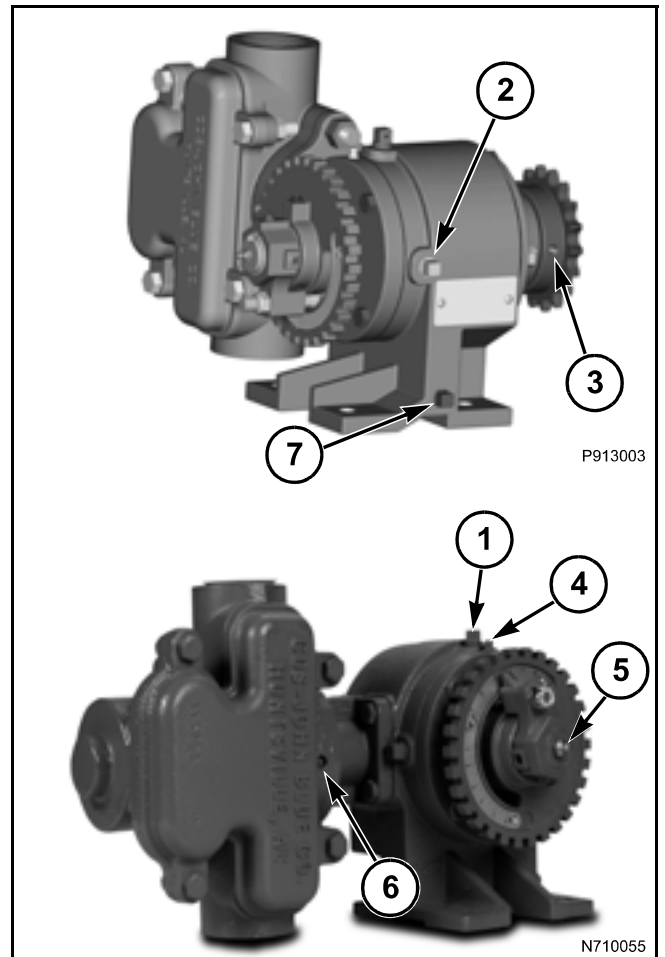

FIG. 2
FIG. 2: Check oil daily and fill crankcase with SAE 90 gear oil (1). Oil level must be visible at the oil level check plug (2) on the back of the crankcase. The level plug is located at the same height as the crankshaft.